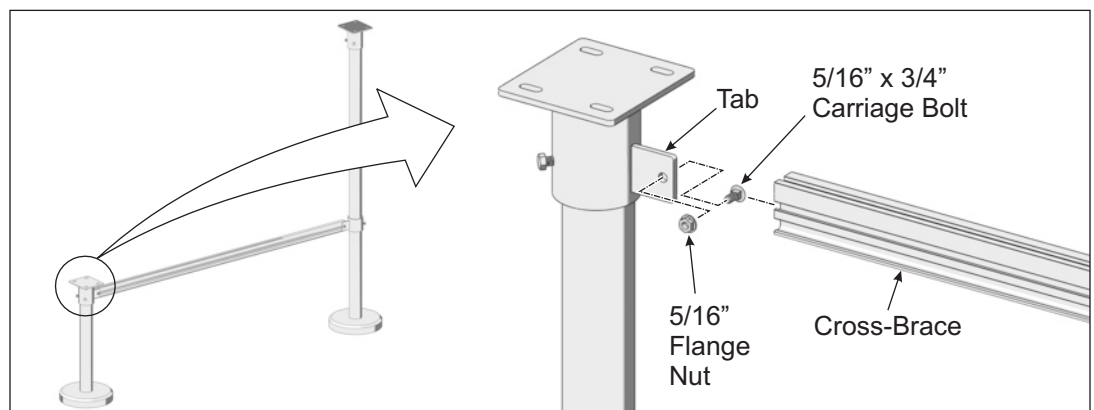

Figure 3-1: Attaching N-S Cross-Bracing to South Top Sleeve
- B. Insert the carriage bolt into the Tab mounting hole and secure with 5/16" flange nut. For now, finger tighten only. (See Figure 3-1)